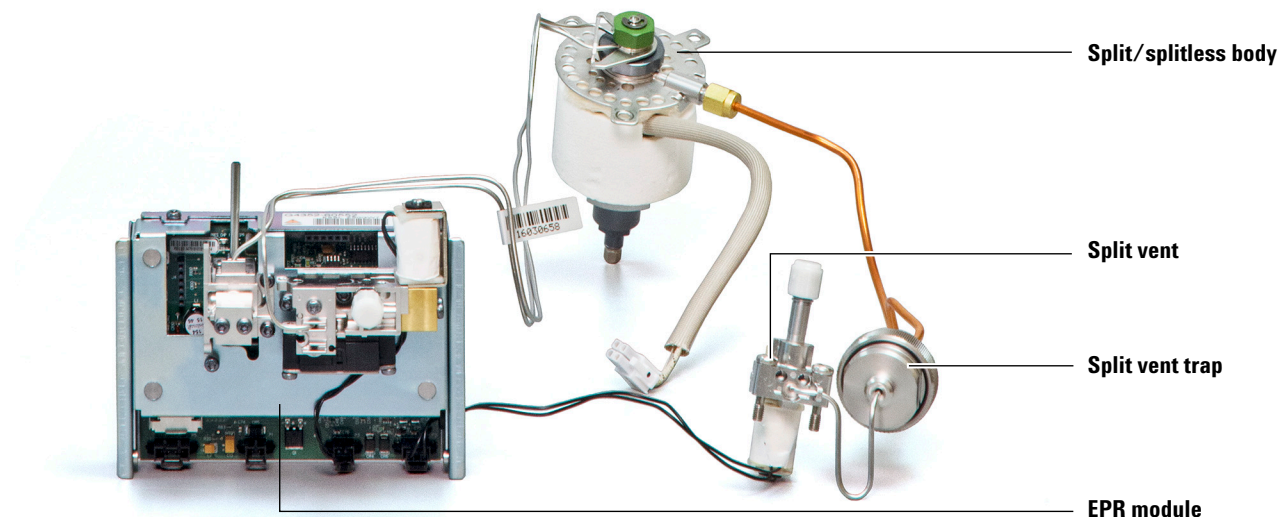

Figure 1 Split/splitless inlet parts identification
- 1 Carefully uncoil the tubing between the inlet body, its EPR module, and the split vent filter assembly (see Figure 1 on page 3). Lay the entire assembly on the oven top with the inlet near its intended location, the EPR module near its associated location in the EPR module bays, and the split vent trap assembly in its associated location.